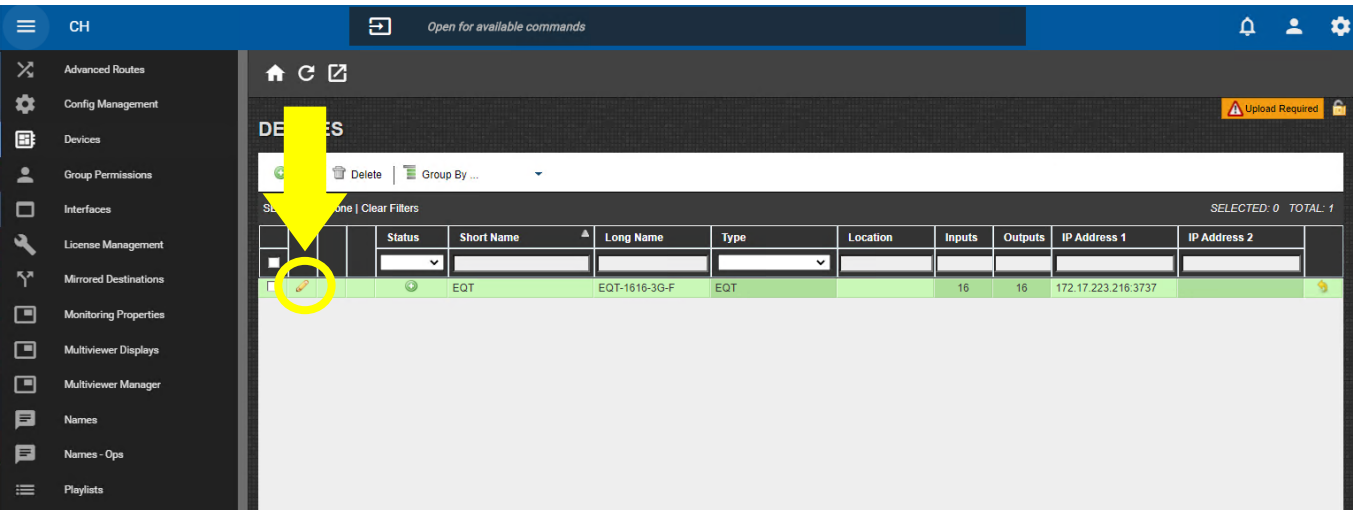

Figure 9-6: MAGNUM - Edit Option
9. Click the icon indicated in Figure 9-6 to edit and include the device's information for proper control.